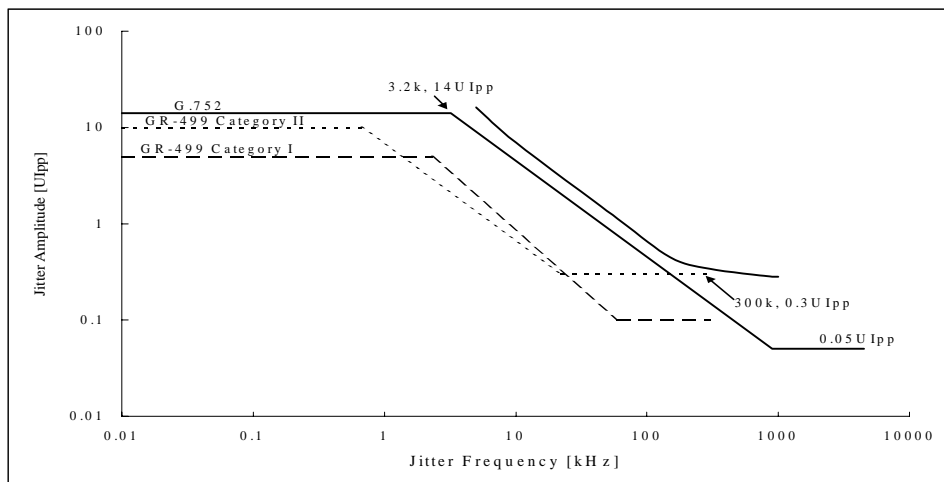

Fig. 11 Jitter Tolerance
4. Typical performance is shown in Fig 11.